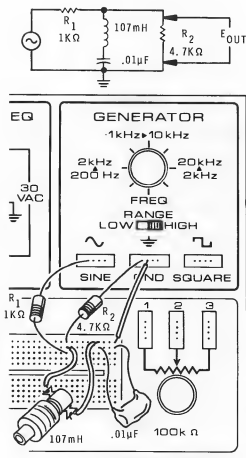
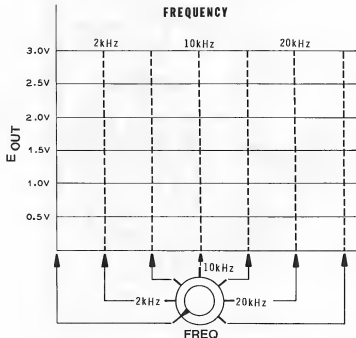
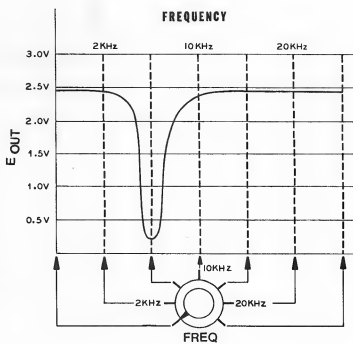

Figure 2-87
Figure 2-88
Figure 2-96
13. Disconnect the previous circuit and construct the circuit shown in Figure 2-87.
14. Connect the voltmeter across R_2 (not R_1). Using the above procedure plot the response curve for this circuit. Use the graph in Figure 2-88 to plot the curve.
Plot the response curve of the circuit shown in Figure 2-87.
Next you constructed the circuit shown in Figure 2-87 and plotted its response curve. The curve you plotted in Figure 2-88 should agree with the typical curve shown in Figure 2-96. This is the response curve of a band-stop filter.
shown in Figure 2-87.